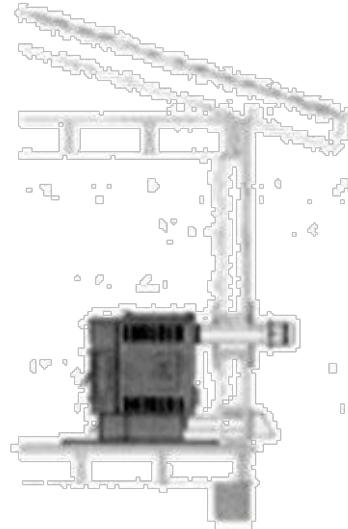

Fig. 6
- Horizontal and vertical (Fig. 6)